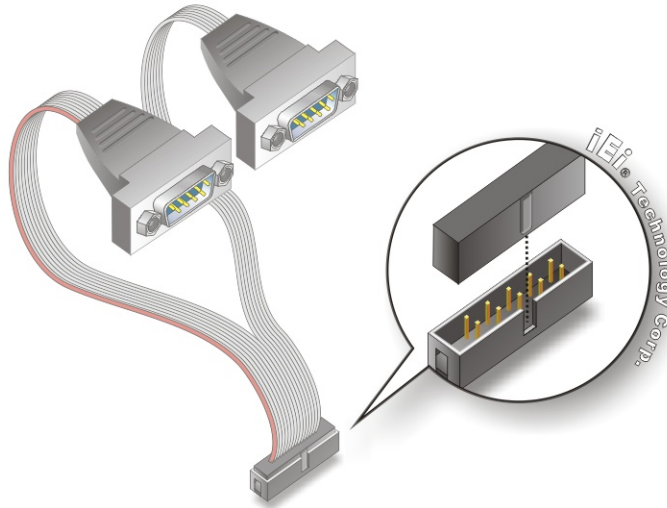

Figure 4-9: Dual RS-232 Cable Installation
Step 2: Insert the cable connectors. Insert one connector into each serial port box headers. See **Figure 4-9**. A key on the front of the cable connectors ensures the connector can only be installed in one direction.